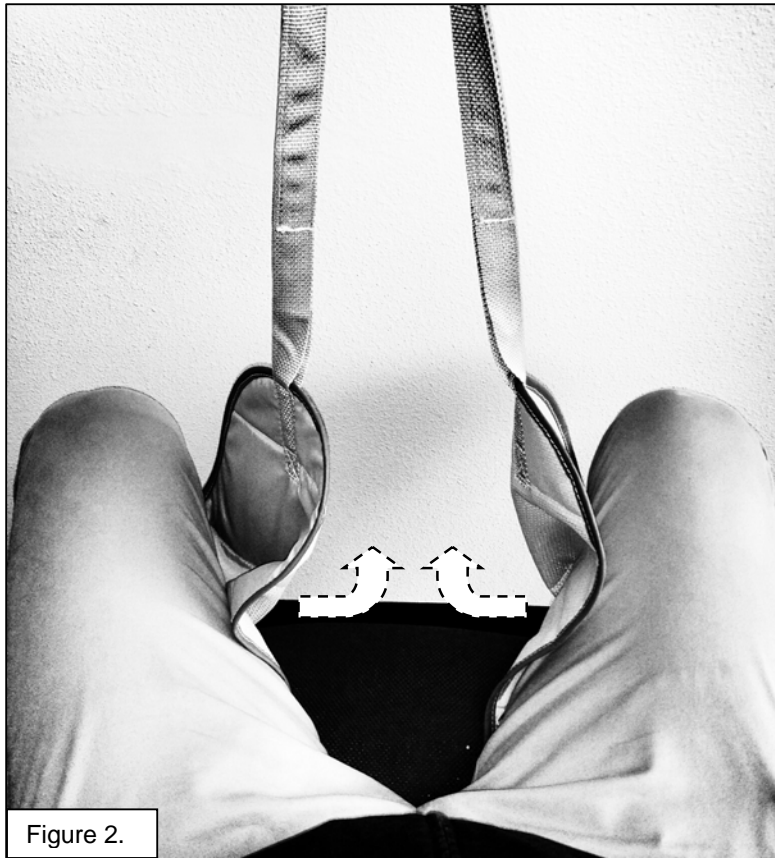

Figure 2.
2. Gently pull leg supports under the user’s legs until the sling’s leg supports are beneath the users thighs and the straps are inside the thighs. **See figure 2.**